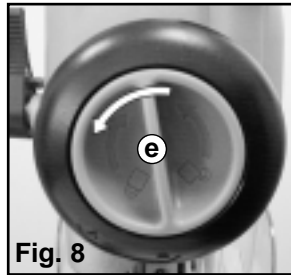

Fig. 8
1. Turn the Plunge Mode Selector (e) to "unlock" (🔓). Turn it anti-clockwise, allow it to "pop" out (you may need to push down slightly on the router) and continue turning until it "clicks" home. **Fig 8.** Ensure the Plunge Lock Lever (g) is unlocked.
1. Set the Plunge Mode Selector (e) to "unlock". **Fig 8,** and ensure that the plunge lock lever (g) is released.